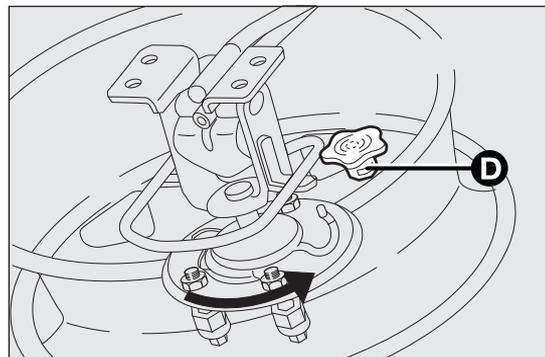

fig. 179
- re-attach the wheel to the support, rotating it to the end of the slot (as illustrated in fig. 179) and screw in knob D;